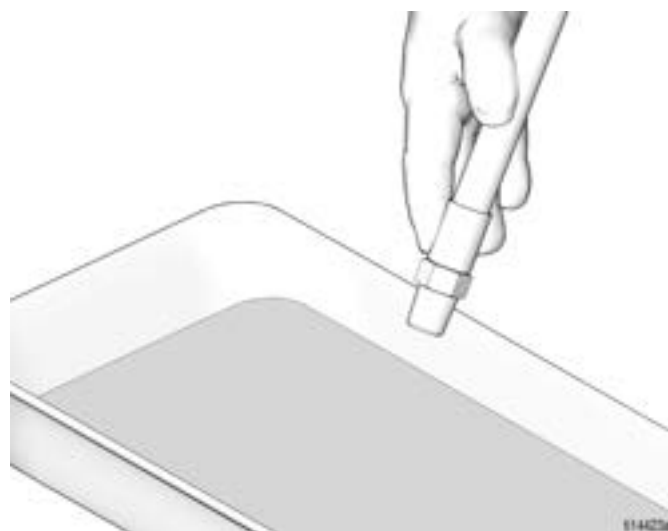

FIG. 10
1. Place the end of the dispense hose into a grounded metal waste container. Hold the hose firmly against the waste container throughout the flushing process (FIG. 10).